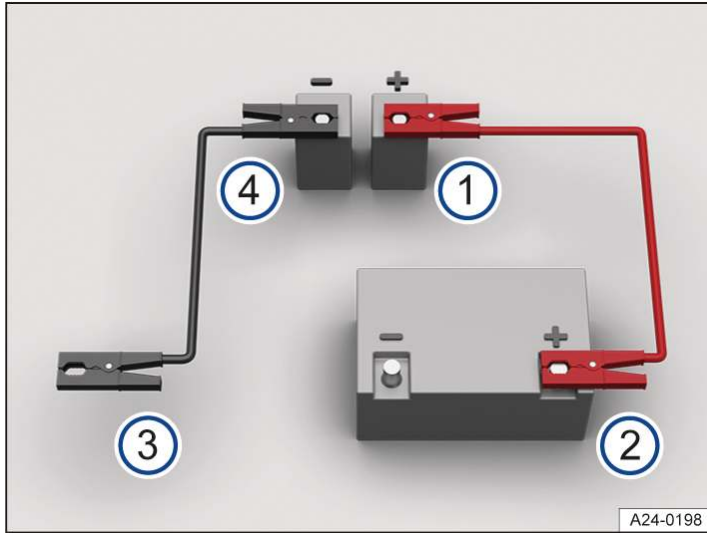

Fig. 3 Diagram showing how to connect jump leads in vehicles with a 12-volt vehicle battery.
Connect the jump leads only in the order 1 – 2 – 3 – 4 → Fig. 3.
3. Connect one end of the red jump lead to the positive battery terminal + of the vehicle with the discharged 12-volt vehicle battery → Fig. 3 ①.
4. Connect the other end of the red jump lead to the positive battery terminal + of the vehicle providing assistance → Fig. 3 ②.
5. Connect one end of the black jump lead to an earth jump-start connection point – of the donor vehicle → Fig. 3 ③.
Or: if there is no earth jump-start connection point – available, connect it to a solid metal part that is firmly bolted to the cylinder block or to the cylinder block itself → Fig. 3 ③.
6. Connect the other end of the black jump lead to the earth jump-start connection point – of the vehicle receiving the jump start → Fig. 3 ④.